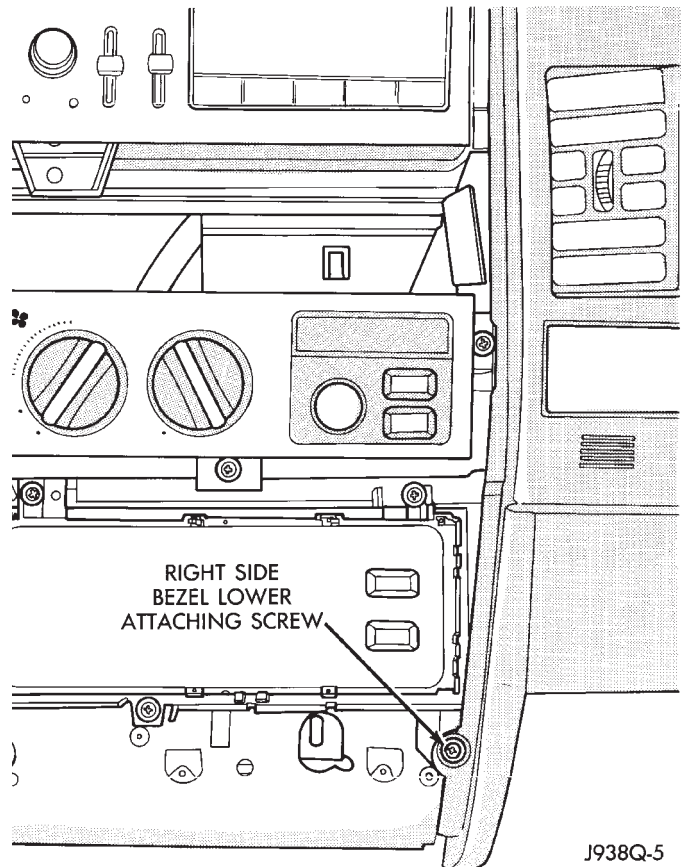
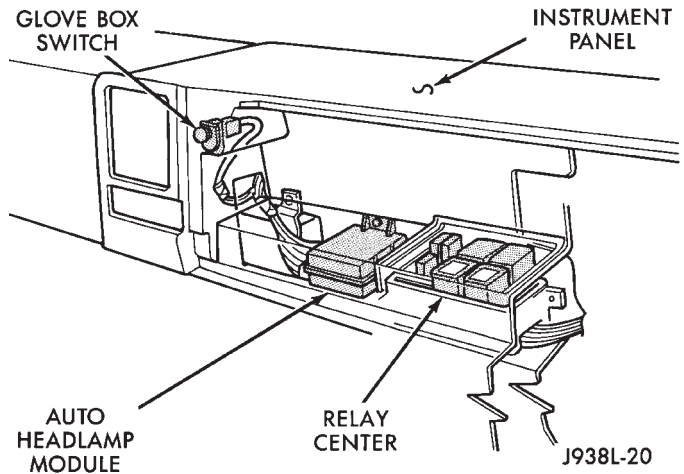

Fig. 8 Right Side Lower Screw
Fig. 9 Auto Headlamp Module
(17) Remove one screw holding the bezel to the center armature (Fig. 8).
(18) Remove bezel from instrument panel. Disconnect glove box light switch.
(19) Remove 2 screws holding auto headlamp module (Fig. 9).
(20) Remove connector from module.